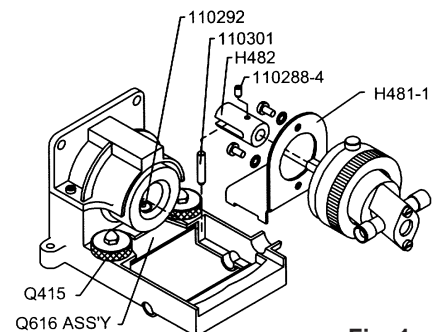

Fig. 1
6. ADAPTING RH PUMP HEADS TO STANDARD Q PUMP DRIVE MODULES. (refer to figs. 1,7c) The RH/Q Kit adapts the RH pump heads to standard Q Pump Drive Modules. Assemble as follows:
a) Assemble Kit parts to RH pump head as shown (fig. 1) with “shoe” of part H481-1 down. Slip COUPLING H482 fully onto pump shaft, with its slot away